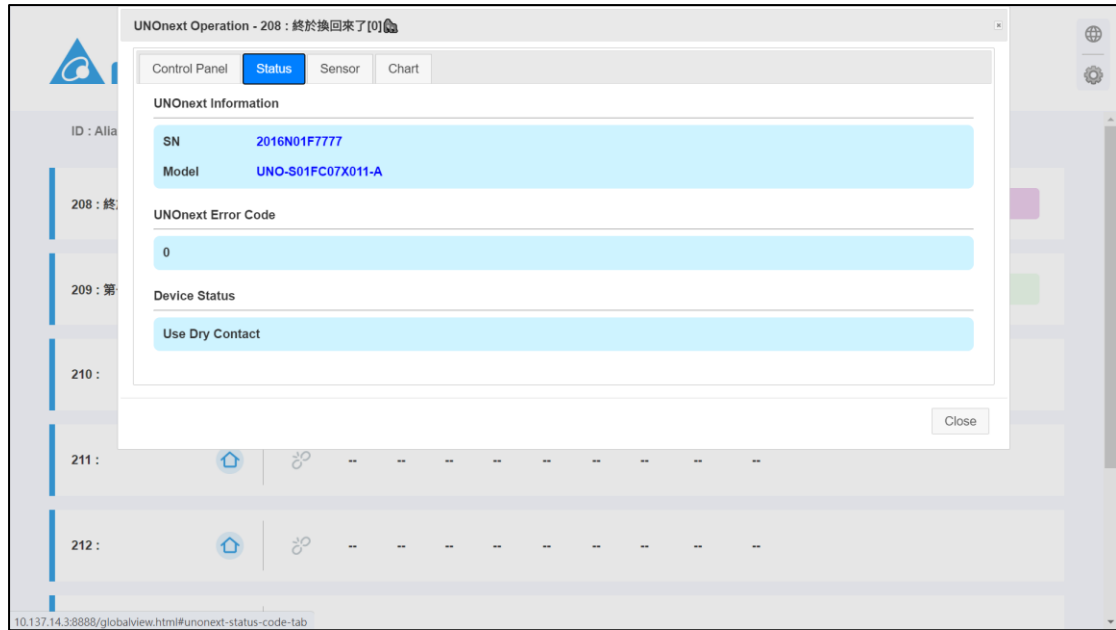

Figure 29 Use dry contact connection status tab
- UNOsensor Information: Includes non-modifiable static information, such as UNOsensor serial numbers (SN) and UNOsensor model.
- Device Status: If UNOsensor is connected to the ventilation device via RS485, the connection status of up to 4 ventilation devices will be displayed here: In **ONLINE** and **OFFLINE**, if the connected device is abnormal, the **error code** will be displayed directly behind. **See the ventilation equipment manuals and documentation for details.** If UNOsensor is connected to the device with dry contact, it will directly display **Use Dry Contact** here, as shown in Figure 29.